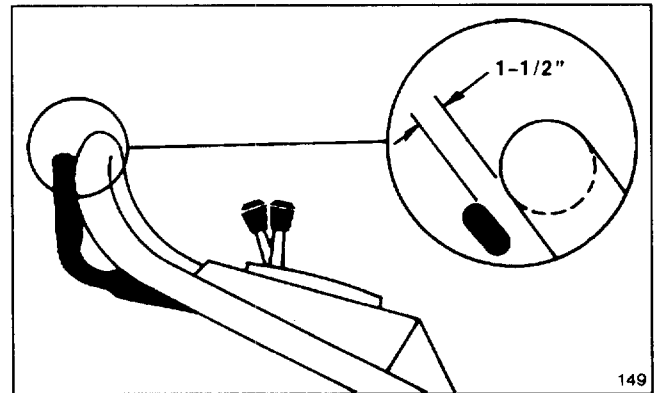

Figure 14
2. Push the control bar down to the lowest position (Fig. 14). This “latches” the mechanism prior to engaging the blade.
3. Lift the control bar to the normal “blade engaged” position, about 2” below the handle (Fig. 14). The “fan” noise indicates that the mower blade is engaged and rotating.
2. Lift control bar until some resistance is felt. Control bar should be 1-1/2" from handle when properly adjusted (Fig. 14).